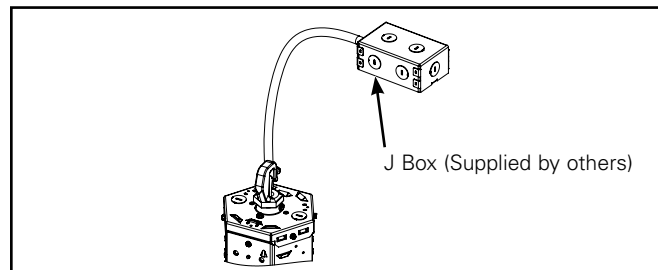

Figure 9.
3. J Box (Supplied by others) (Figure 9).